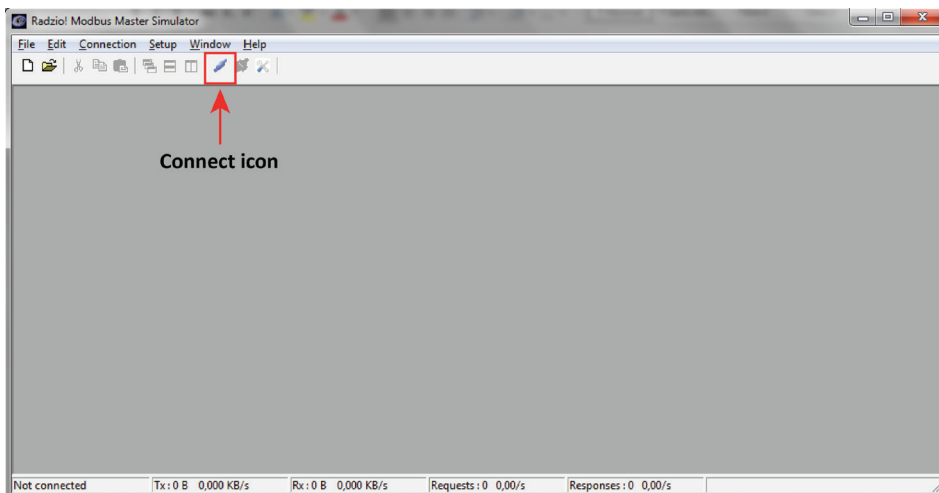

Fig 8: Connect icon
9. Click on the **Connect** icon in the Radzio tool bar in order to establish the connections. (Fig 8)